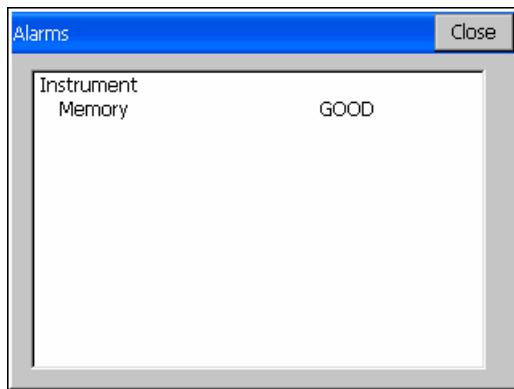

Figure 3-27. Checking Status
- **Check**– pressing this button checks the status of selected situations for the instruments being used is shown (Figure 3-27).